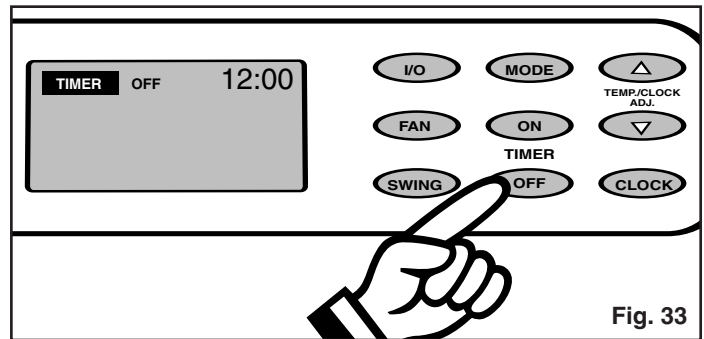
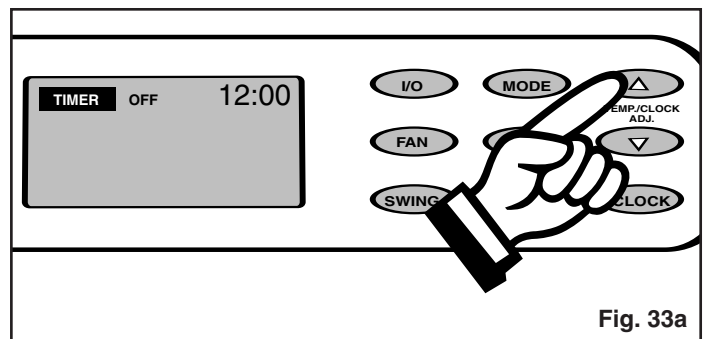

Fig. 33
Fig. 33a
- 2) Press the **TIMER-OFF** key pad to initiate the **AUTO-OFF** time sequence. *Fig. 33*. The display window will indicate **TIMER-OFF** and the word **OFF** will flash for 5 seconds. Press the  $\Delta$  or  $\nabla$  key pad to select the desired **AUTO-OFF** time. *Fig. 33a*.
- 2) Press the **AUTO-OFF** key pad to initiate the **AUTO-OFF** time sequence. (Fig. 33). The display window will indicate **TIMER-OFF** and the word **OFF** will flash for 5 seconds. Press the **△** or **▽** key pad to select the desired **AUTO-OFF** time. (Fig. 32a).